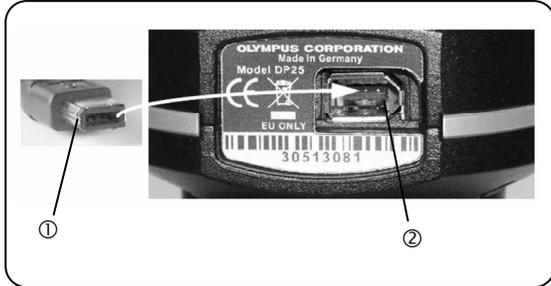

Fig. 3
#### ② Installation of camera (Fig.3)